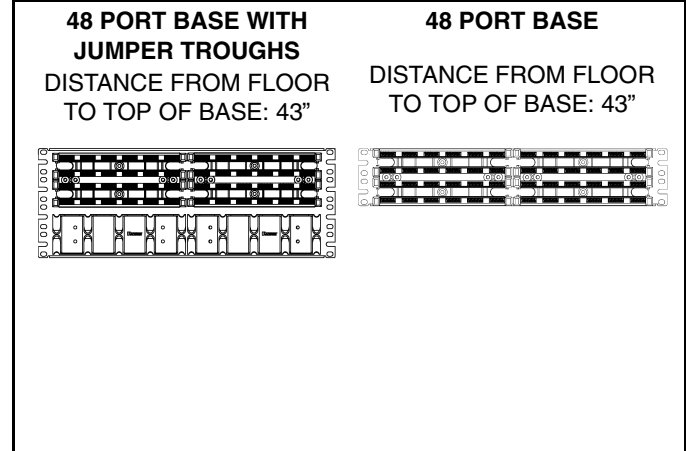

Fig. 1
1. Use appropriate mounting hardware to install base on desired surface as shown in Fig. 1, 3/4" plywood is recommended. (Tip: *PANDUIT* lettering should be upright.)